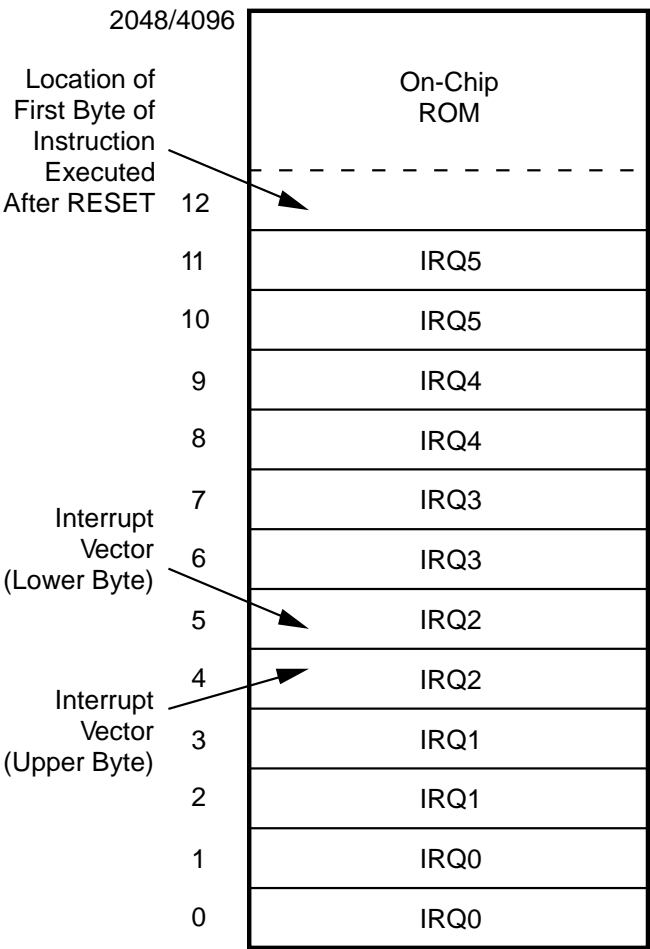

Figure 15. Program Memory Map
**Program Memory.** C83/C84 can address up to 4 KB of internal Program Memory (Figure 15). The first 12 bytes of program memory are reserved for the interrupt vectors. These locations contain six 16-bit vectors that correspond to the six available interrupts. Bytes 13 to 4095 consist of on-chip, mask-programmed ROM.